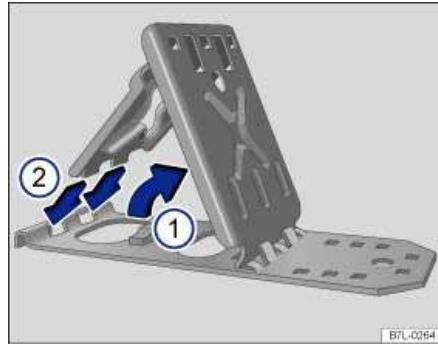

Fig. 191 Unfolding the folding chock.
- Raise the support plate ⇒ fig. 191 (1).
- Insert both "lugs" of the securing plate completely in the elongated holes of the base plate (2).